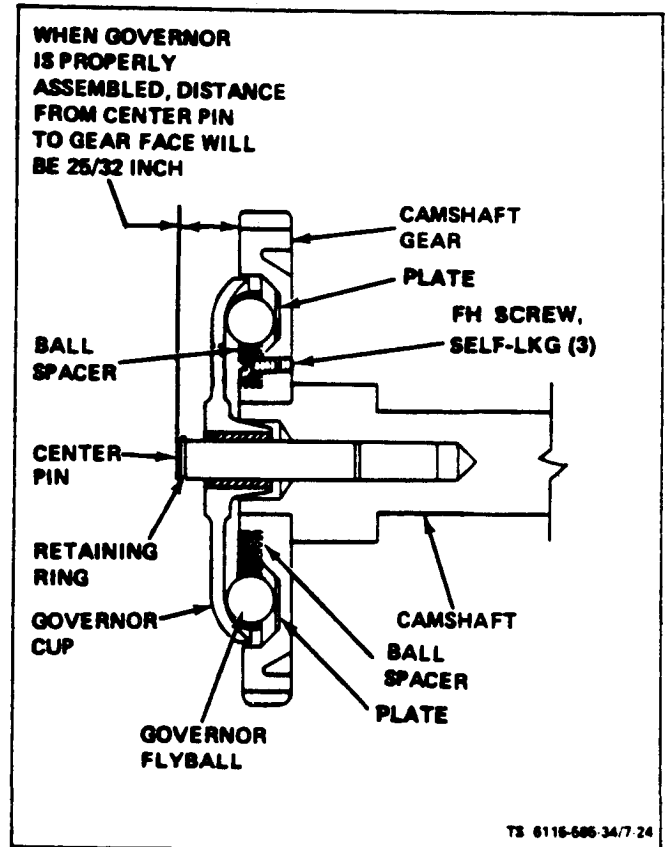

Figure 7-24. Governor Cup Assembly
a. Remove (see figure 7-24). On ASK equipped generators, refer to Operator and Organizational Maintenance Manual and remove cover assembly. Remove retaining ring from camshaft center pin and slide cup off. Be sure to catch the ten flyballs that will fall out when cup is removed.
b. Repair. Replace any flyballs that have flat spots or grooves. Replace if race surface is grooved or rough. The governor cup must be a free spinning fit on camshaft center pin, but should be replaced if excessively loose or wobbly. Check distance the center pin extends from the camshaft gear, this distance must be  $25/32$  inch to give proper travel distance for the cup (see figure 7-24). If it is less, the engine may race; if more, the cup will not hold the balls properly. If distance is too great, drive or press center pin in. If it is too small, replace pin; it cannot be removed without damaging the surface. If aluminum ball spacer openings are badly worn, replace ball spacer. Remove self-locking flat head screws, install new screws, ball spacer and plate.